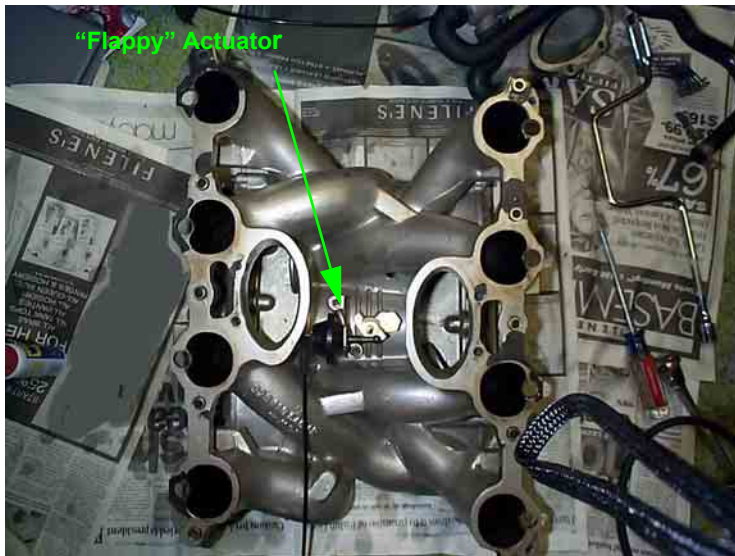

FIGURE 17
- g. Vacuum actuator for the dual resonance intake flap. See Figure 17.